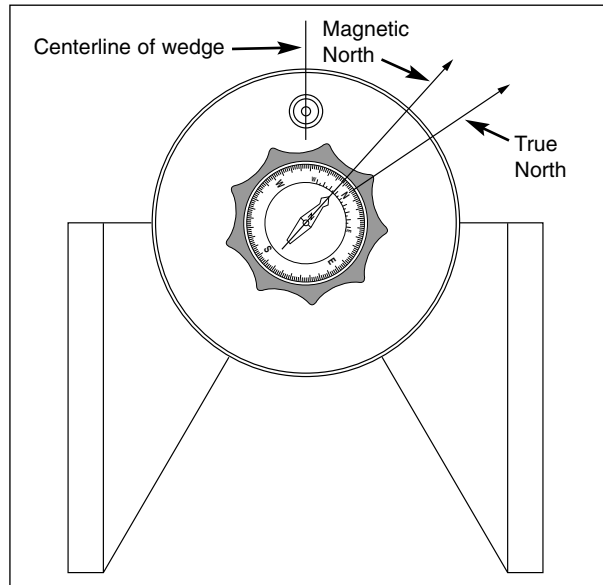

Fig. 18: Equatorial Wedge.
2. Rotate the knob/compass so that the magnetic pointing arrow lies directly over the painted black alignment arrow (painted on the bottom surface of the compass, Fig. 18). The "North" position on the direction scale (and the point on the knob/compass) now point directly north.